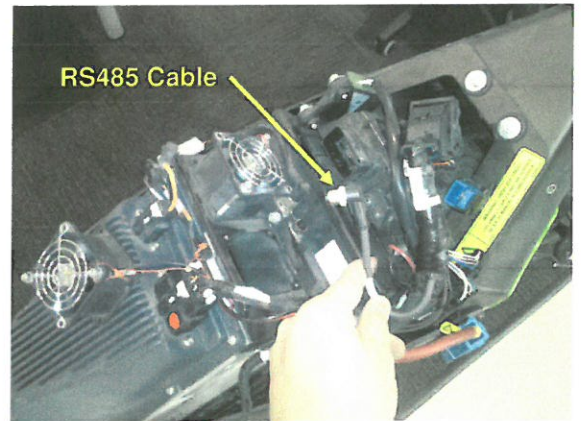

Figure 4
4.2.5. Disconnect the RS485 cable from the #3 Valence Battery (see figure 4).